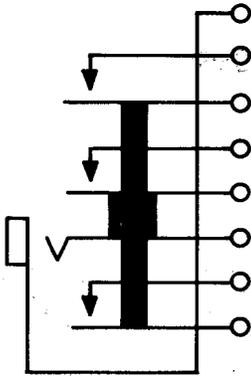

Fig. 3—355C Jack
2.03 355C: This single-mounted jack (Fig. 3) is to be mounted with the springs in a vertical plane and is arranged to be used with the 347 or similar-type plugs.